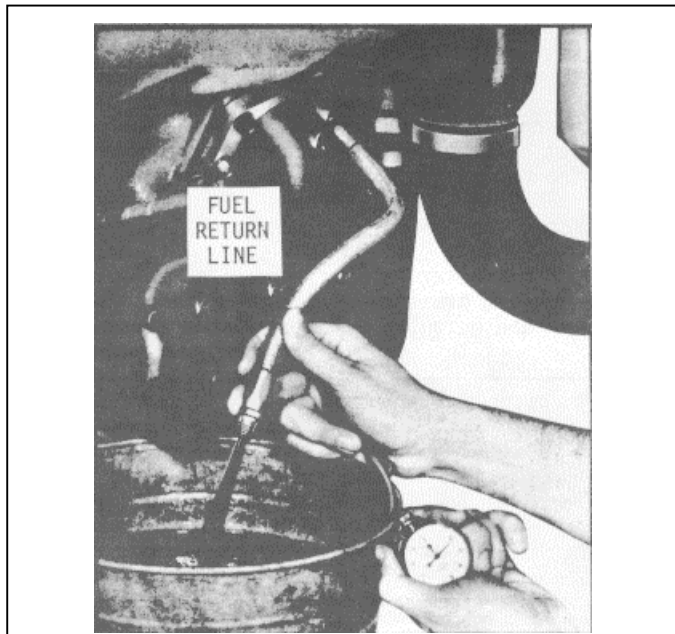

Fig. 4
- (1) Disconnect the fuel return line from the fitting at the fuel tank and hold the open end in a convenient receptacle (Fig. 4),
- (2) For non-turbocharged engines, start and run the engine at 1200 rpm and measure the fuel flow for a period of one minute. A flow of approximately 0.8 gallon of fuel per minute is specified for 6V engines (with a fuel line restriction fitting having an .080" spill orifice).